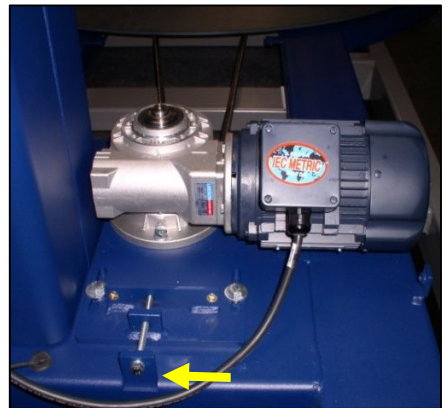

Figure 7.8
5. Use the tension screw (Figure 7.8) to adjust the tension of the belt (13 mm wrench).